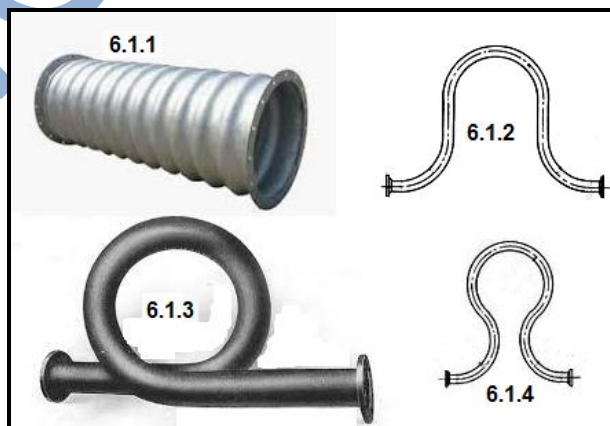

FIGURE 2
6.1 FIGURE 2 shows FOUR types of joints that allow for expansion and contraction in pipelines. Name these FOUR types of joints. Write only the answer next to the question number (6.1.1 – 6.1.4) in the ANSWER BOOK.